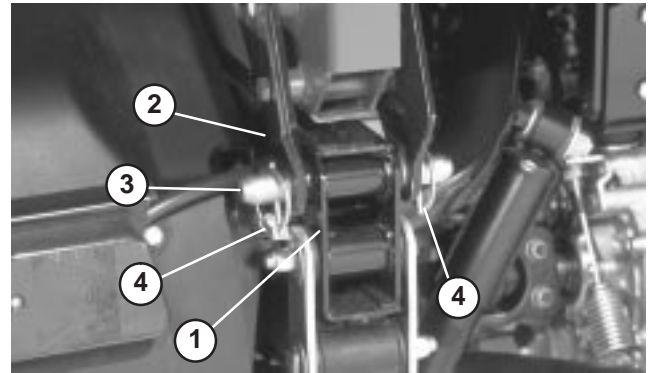
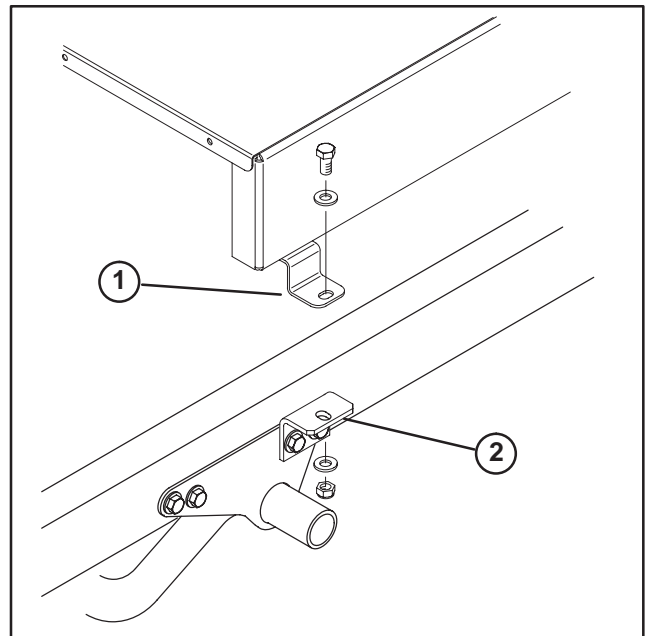

Figure 8
Figure 9
7. Loosely secure top of each attachment bracket (Fig. 8) or spacer mount (Fig. 9) to mounting tab on each side of topdresser with a 1/2-13 x 1" lg. capscrew, (2) flatwashers and locknuts. Tighten all fasteners.